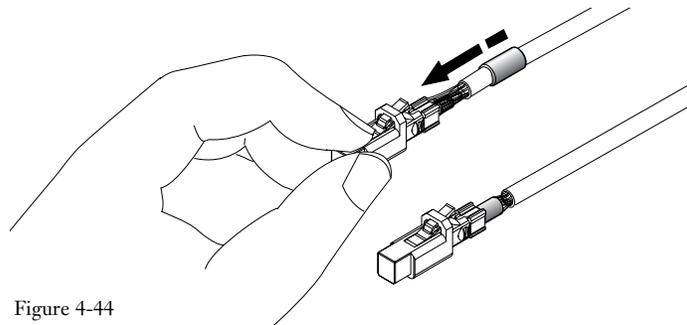

Figure 4-44
**4.8-11** Hold the connector and push the crimp ring over the aramid yarn and against the back of the connector's cam (Figure 4-44).